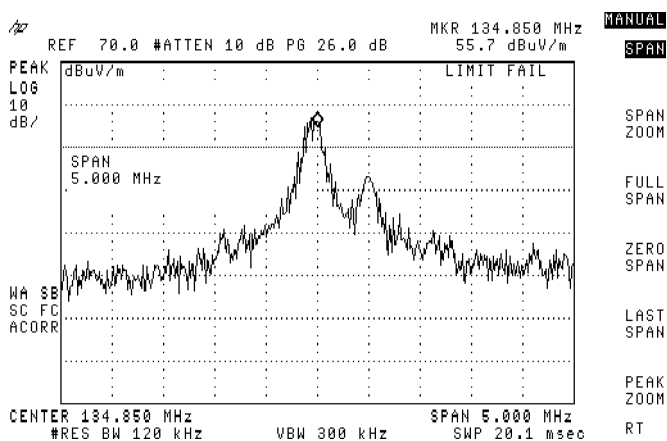

Figure 3-60. Narrowing the Span to Zoom in on a Signal
6. Press 5, **(MHz)**. See Figure 3-60.